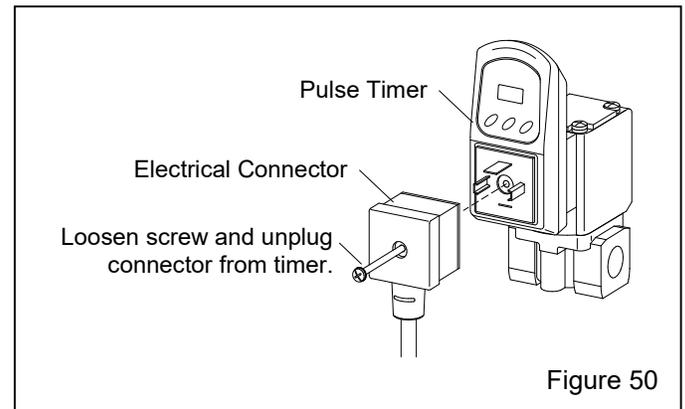

Figure 50
7.17.1 Loosen the connector screw and unplug the electrical connector from the timer, as shown in Figure 50.